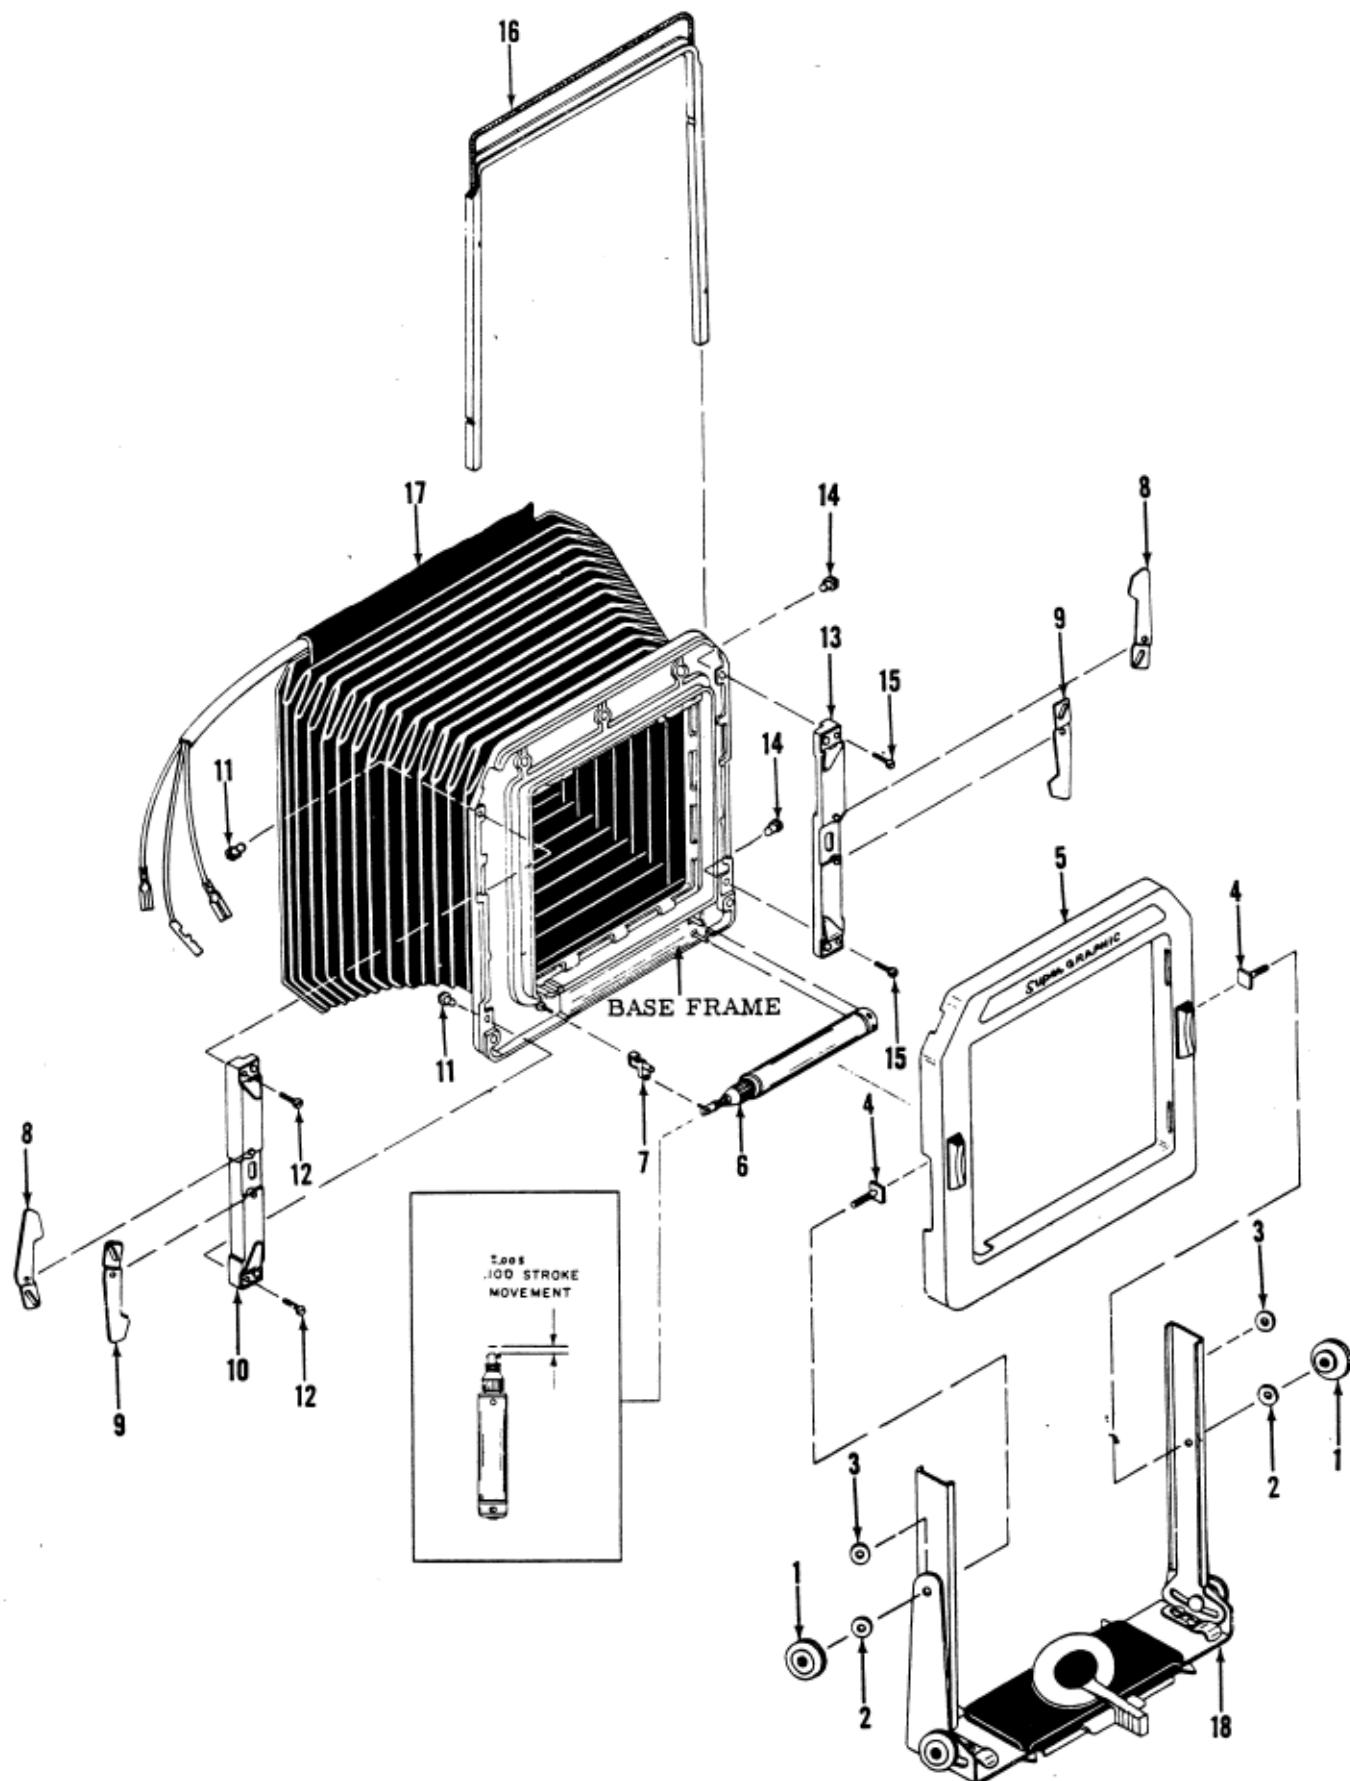

Figure 9. FRONT STANDARD COMPLETE
U. FRONT STANDARD COMPLETE - DISASSEMBLY AND REASSEMBLY (Figure 9)
- Remove two locking knobs (1) and two flat washers (2).